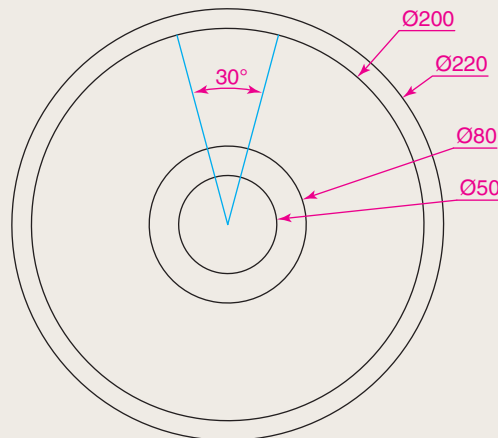
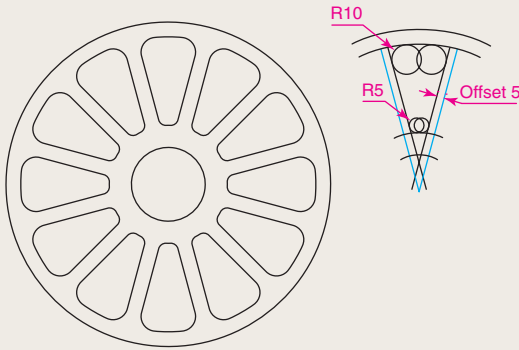

Fig. 5.49 Exercise 4 – circles and lines on which the exercise is based
Fig. 5.50 Exercise 4
4. Construct the circles and lines in Fig. 5.49. Using **Offset** and the **Ttr** prompt of the **Circle** tool followed by **Trim**, construct one of the outlines arrayed within the outer circle. Then, with **Polyline Edit** change the lines and arcs into a pline of width = 0.3. Finally array the outline twelve times around the centre of the circles (Fig. 5.50).